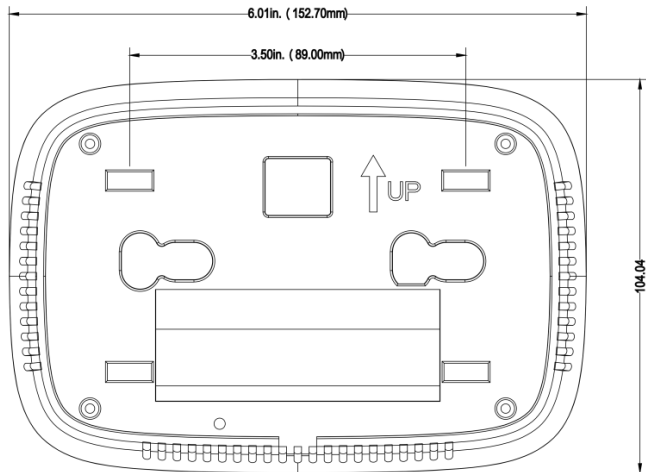

Fig. 2. Lakepro-1 rear dimensions in inches. (mm).
2. Lakepro-1 rear dimensions: see Fig. 2.